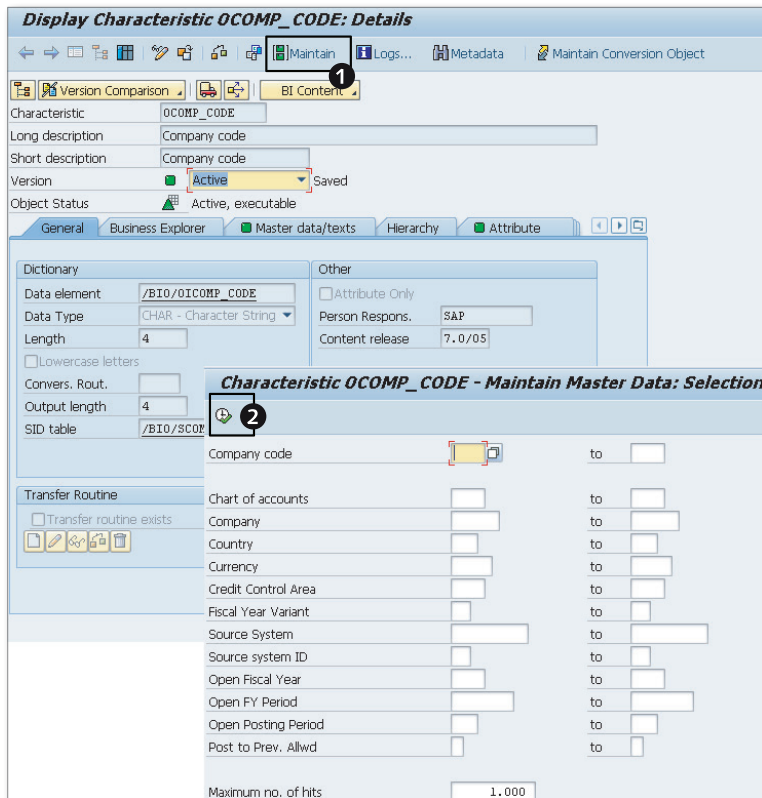
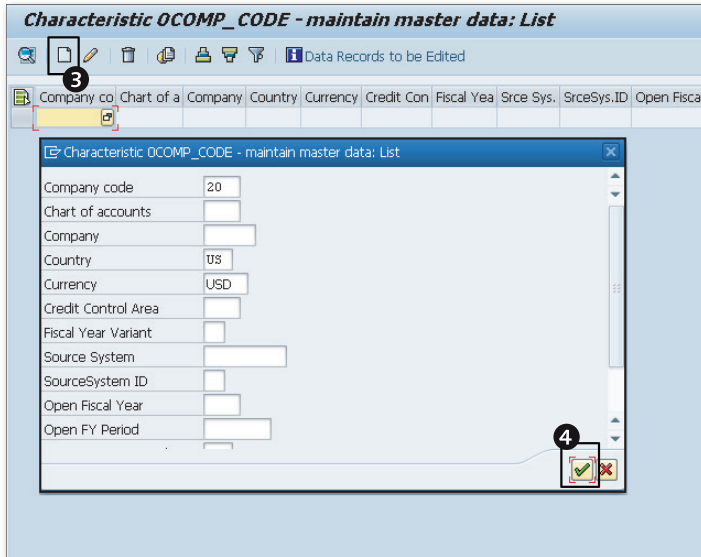

Figure 3.10 Manually Entering Data for a Characteristic InfoObject
Figure 3.11 Manually Inserting a New Record for an InfoObject
We now manually enter the data for the Company Code InfoObject (OCOMP_CODE), as illustrated in Figure 3.10 and Figure 3.11.
3. In the DISPLAY CHARACTERISTIC <INFOOBJECT_NAME>: DETAILS window, click on MAINTAIN to create or modify data for this InfoObject (Figure 3.10, ❶).
4. In the CHARACTERISTIC <INFOOBJECT_NAME> – MAINTAIN MASTER DATA: SELECTION window, click on the EXECUTE button (Figure 3.10, ❷).
5. In the CHARACTERISTIC <INFOOBJECT_NAME> – MAINTAIN MASTER DATA: LIST window, click on CREATE to create a new record (Figure 3.11, ❸). Enter a value for the COMPANY CODE InfoObject ("20"), as listed in Table 3.1.
6. Click on the ENTER button (Figure 3.11, ❹), and then click on the SAVE button.